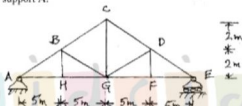

Fig.Q.3
- 3 The centre line of a roof truss is as shown in the Fig.Q.3, The magnitude and nature of forces under service conditions are